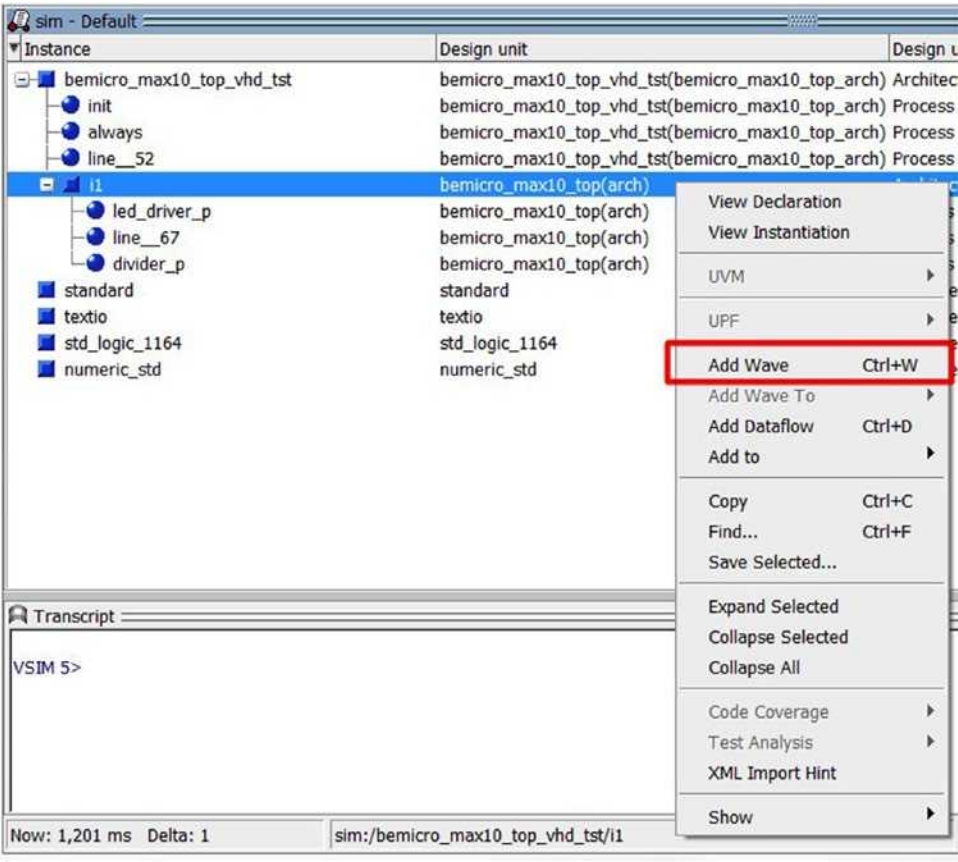
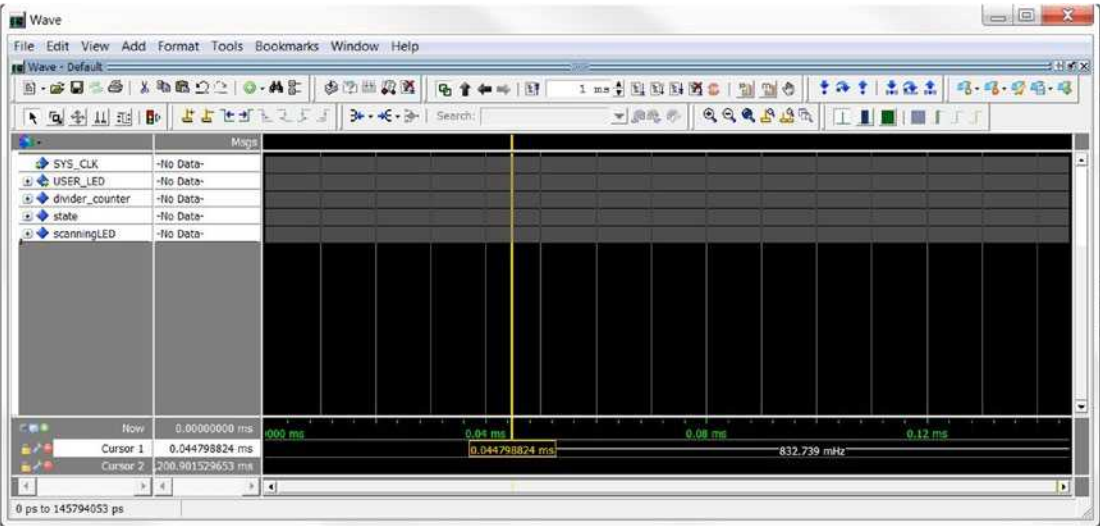

Figure 4-46. Add all the signals into a Wave display
Figure 4-47. Wave window
11. Right-click the Instance **i1** or Design unit: **bemicro_max10_top(arch)**, and click **Add Wave**. Figure 4-46 shows the location. It will pop up a Wave window like Figure 4-47. You can also trigger it by entering the following script in the Transcript box: